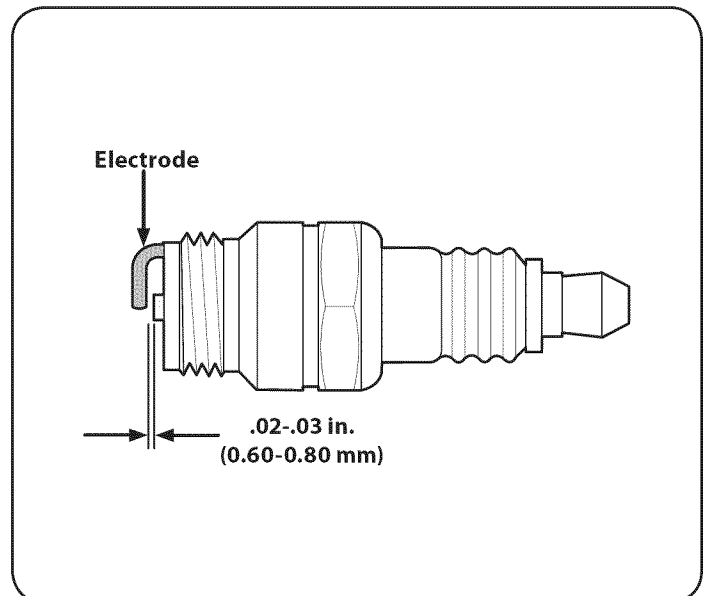

Figure 15
3. Measure the plug gap with a feeler gauge. Correct as necessary by bending the side electrode, Figure 15. The gap should be set to .02-.03 inches (0.60-0.80 mm).